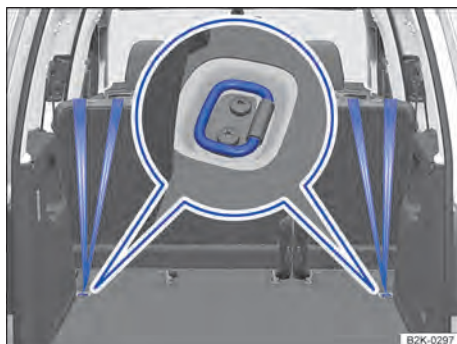
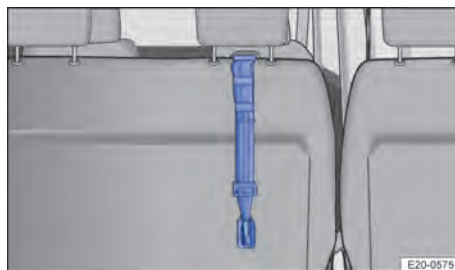

Fig. 43 Outer seats in the second row: top tether straps attached in the bolted fastening rings at the sides of the load compartment.
Fig. 44 Middle seat in the second seat row: top tether strap attached in the top tether anchor point (depending on market and equipment).
7. Hook the top tether strap of the child seat into the fastening rings → Fig. 43 eyelets or top tether anchor point → Fig. 44.